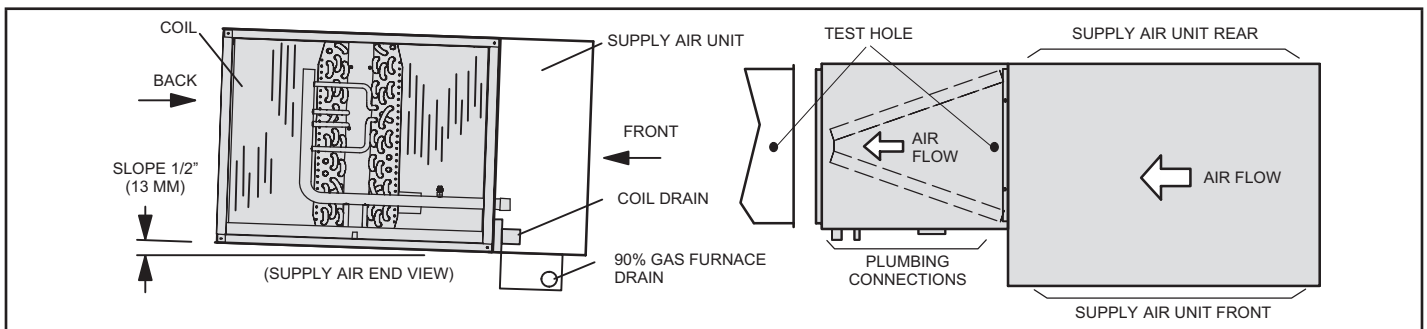

FIGURE 3. Left-Hand Air Discharge
- 1 - **Left-Hand and Right-Hand Discharge** – The coil must have a 1/2" slope from the rear of the cabinet to the drain. Position the coil adjacent to the furnace cabinet and align the six screw clearance holes in the coil casing with the furnace engagement holes. Use six field-provided #8 X 1" screws to secure the coil casing to the furnace (see figures 3 and 4).